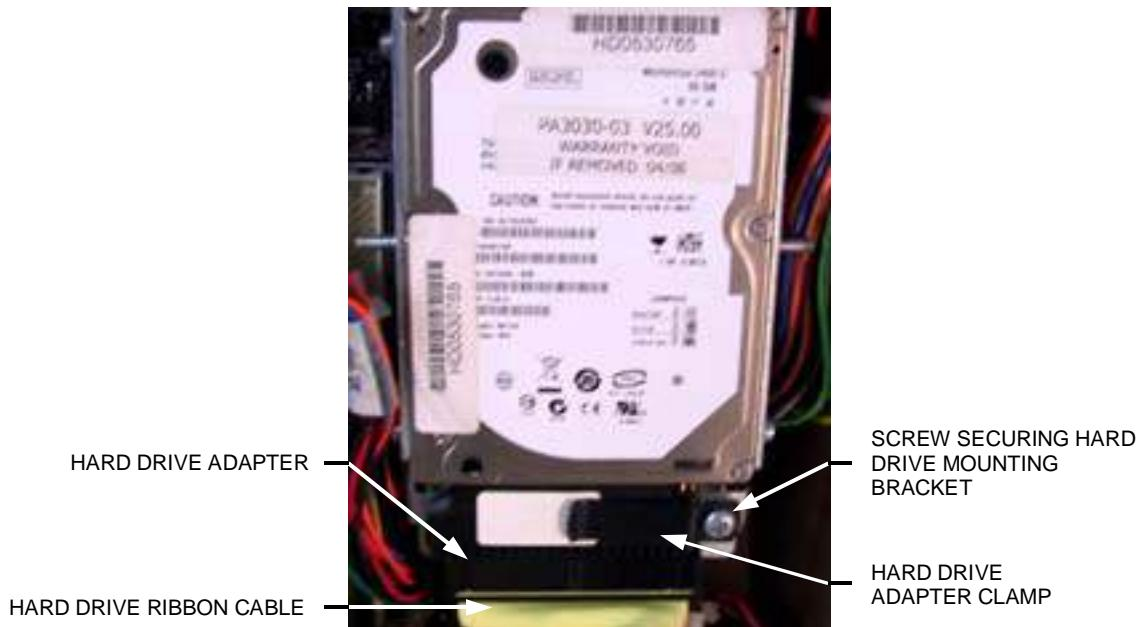

FIGURE 5 - CLOSEUP OF PATA HARD DRIVE WITH CLAMP
3. Remove the screw securing the hard drive mounting bracket to its mounting plate (see Figure 5). This screw will not be reused.
4. Remove the hard drive from its mounting plate by sliding the assembly down and off the mounting plate. Disconnect the hard drive adapter and attached ribbon cable from the hard drive (see Figure 5). Then, separate the hard drive adapter from the ribbon cable and 2-pin power cable. This hard drive adapter will not be reused.
1. Attach the 2-pin power cable in the game to the new hard drive adapter, which comes attached to the new hard drive. Do so by locating the two stand-alone pins on the hard drive adapter, and then sliding the 2-pin adapter onto these pins (for help, see the label on the hard drive adapter - see Figure 5). Note: The black wire on the power cord MUST be facing toward the label side of the hard drive adapter. Failure to do so could result in a damaged hard drive.
3. Slide the new hard drive assembly onto the game's mounting plate. Be sure that the hard drive is flush to the mounting plate when doing so. Both the label on the plastic of the hard drive adapter and the label on the hard drive itself should be facing out. Align the hole in the mounting bracket with the hole on the mounting plate, then secure the supplied screw, washer, and clamp to the mounting plate (see Figure 5). The clamp should rest on the hard drive adapter, holding it in place when screwed in tightly.